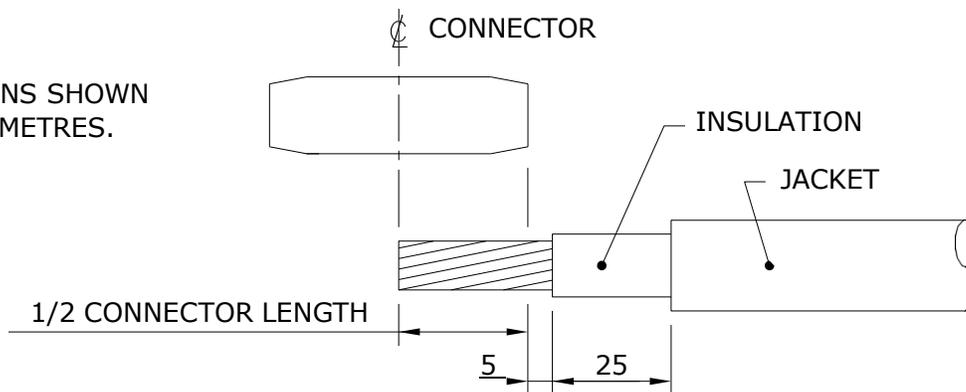

FIGURE 1
4. REMOVE JACKET AND INSULATION FROM CABLES AS PER FIGURE 1 OR FOLLOW MANUFACTURERS INSTRUCTIONS; BE CAREFUL NOT TO NICK INSULATION OR CONDUCTOR.
- ③ INSTALL ROD CONNECTOR AS PER TABLE BELOW AND FIGURE 1.